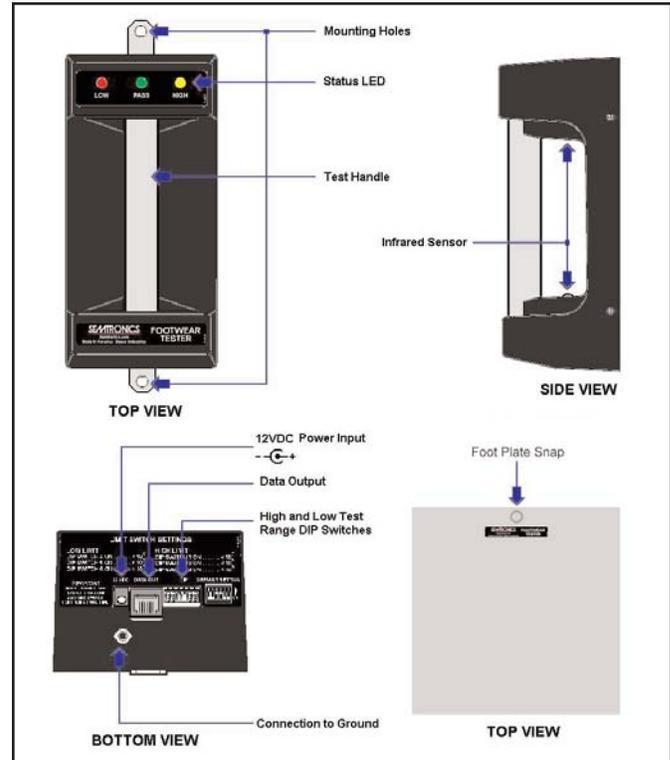

Figure 2. Footwear Tester and Foot Plate Features and Components
- Mount the tester in the upright position (See Figure 2) approximately 4 feet above floor level.